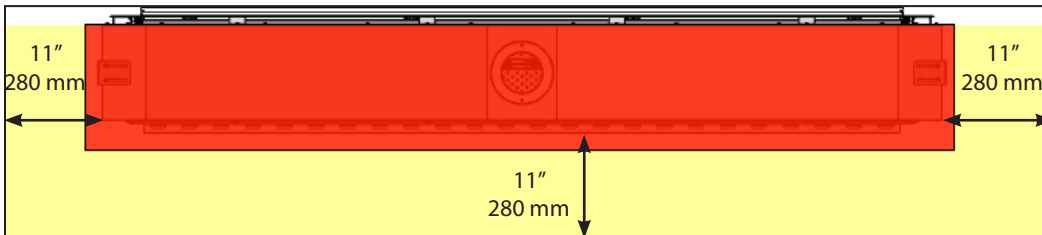

Figure 7 Plan View - Modore 240
- The minimum clearance to non-combustible material is 2"/50 mm. (See Figures 7 - 12, clearance shown in red)
Figures 7* through 9* show (in yellow) the clearances to combustible material which *must* be maintained.